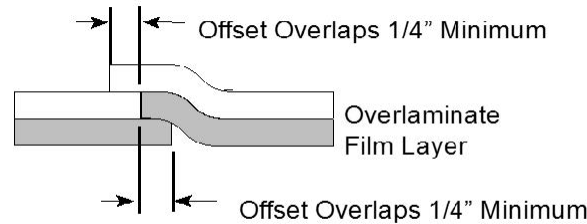

Figure 8. Offset Overlaps Required for Each Layer
- Seams for each layer of film, diffuser, and/or overlamine must each be offset by at least 1/4 in. (6.4 mm). Figure 8 illustrates the preferred method for offsetting overlaps. This method eliminates all gaps except in the bottom layer of film, creating a better sealed seam.